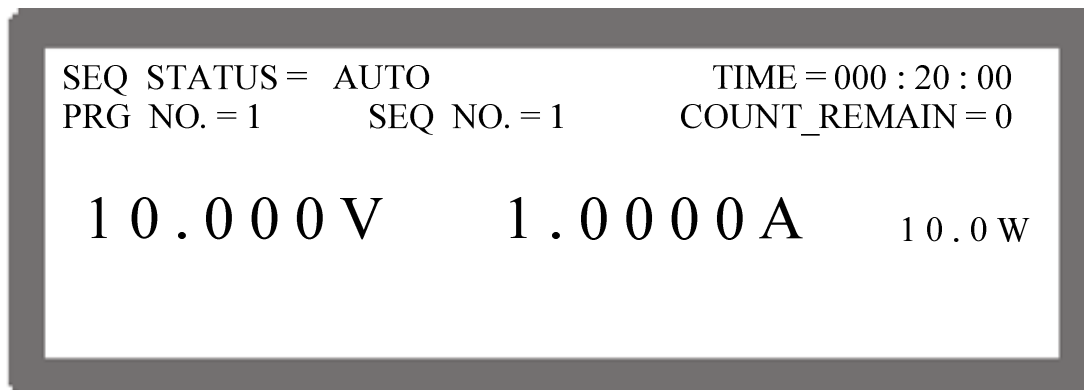

Figure 4-16
2. Pressing “” again will confirm the execution and go to the MAIN PAGE as Figure 4-16 shows. To quit the execution, pressing “” will return to the standby MAIN PAGE.